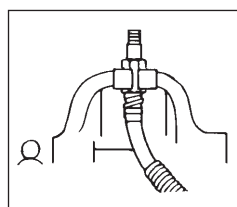

Figure 9
1. Clamp the hexagon nut of the hose fitting in a vise as illustrated in Figure 9.